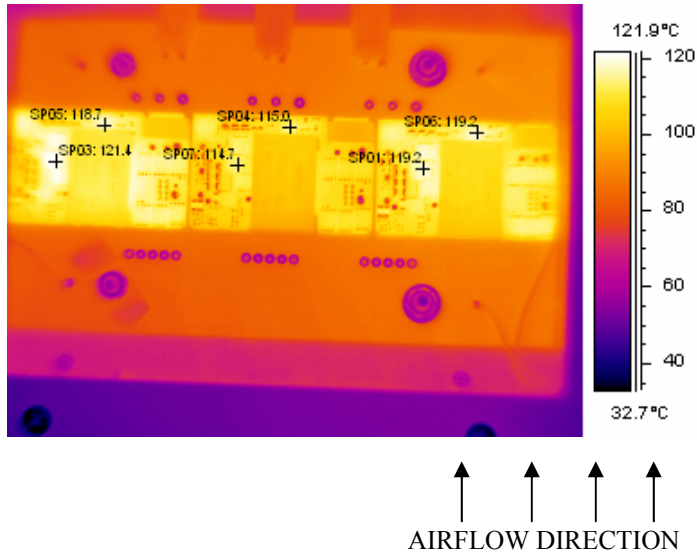

Figure 3. Three units in parallel with 50 V input voltage, 900 W output power, 70 °C ambient, and 200 LFM airflow.
6. Figure 3 shows the recommended airflow direction, unit orientation and temperature variation of three paralleled units with 10% current share accuracy. Please note that the maximum power available will be reduced by up to 10% due to current share accuracy. (At 48 volts in, the maximum power available would be 350 W X 3unit X 90% derating = 945 W)